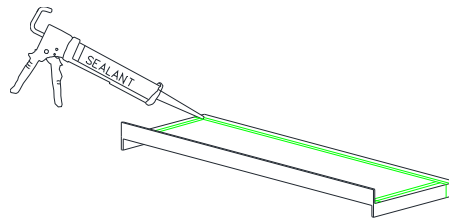

Figure 3:
- With bottom side of sill-pan up, apply a 3/8" bead of compatible sealant 1/2" in from interior leg. Sealant bead to run across the bottom as well as up each vertical leg of the sill pan. Also apply sealant beads near the sides and across the front (Figure 3).